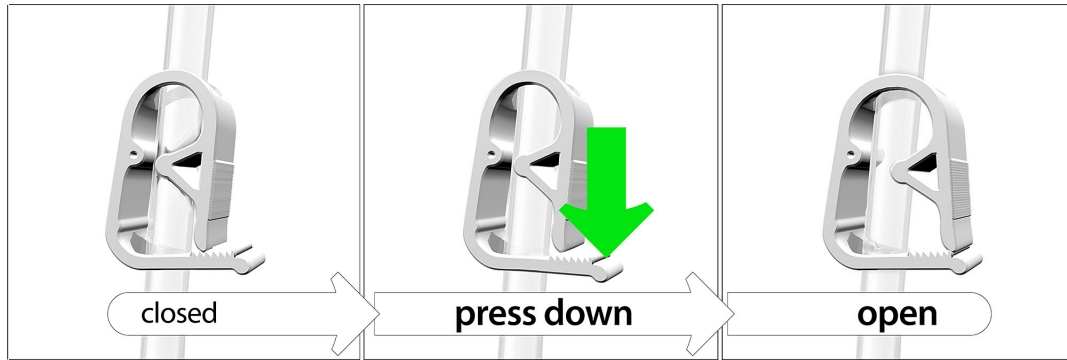

Figure 9
9. Reopen the tubing clamp by pushing down on the top of the clamp until it releases (**Figure 9**).
2. Reopen the tubing clamp by pushing down on the top of the clamp until it releases (**Figure 9**).